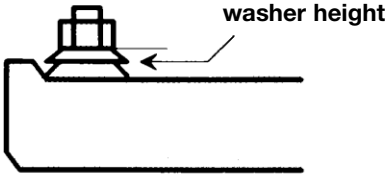

Figure 2: Belleville washer height
The effective range of a Belleville washer is measured in height (or compression distance) of the washer not torque. Refer to Figure 2 and Table 4 for proper compression height. Do not tighten nuts until the washers are flat. Belleville washers cannot absorb expansion when flat.
4. for transparent Belleville style gages, thread nuts on stud, place two Belleville washers under nut with pointed end toward the nut (see Figure 2), insert stud through each cover and lay out covers along bench, side by side, with liquid chambers. Use chambers to space covers and line them up with vision slots.
- 15A. for transparent Belleville style gages: install nameplate and two Belleville washers under each nut with pointed end toward the nut (see Figure 2). Finger tighten nuts.
- 15B. for reflex Belleville style gages: install nameplate and four Belleville washers under each nut with pointed end toward the nut (see Figure 2). Finger tighten nuts.